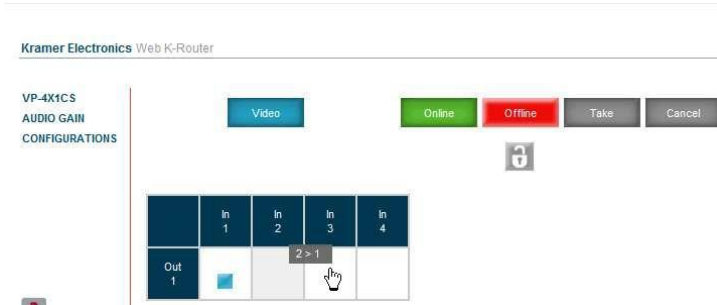

Figure 13: Switching an Input to an Output
- Click on the required switching point within the matrix (In 3 to Out 1, see Figure 13).